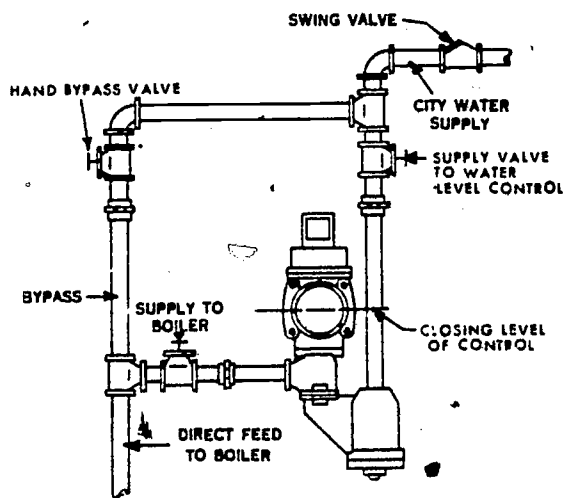

Figure 2. A manual bypass.
6. **Manual Feeder.** In the event that the automatic control becomes inoperative, there is normally a bypass piping arrangement installed to provide makeup water to the boiler manually. A commonly used bypass piping hookup is shown in figure 2. When the automatic control fails to operate and you must feed the water manually through the bypass system, close the hand-operated valves for cutting out the automatic regulator and